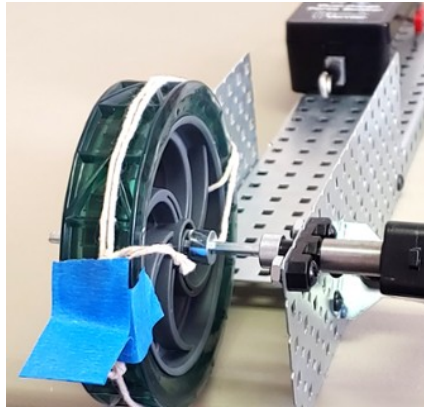

Figure 7. Finger Striker
- e. Add a doubled-over piece of tape to the edge of the wheel as shown in figure 7. This will slap your finger as the wheel turns to help you count the number of revolutions.